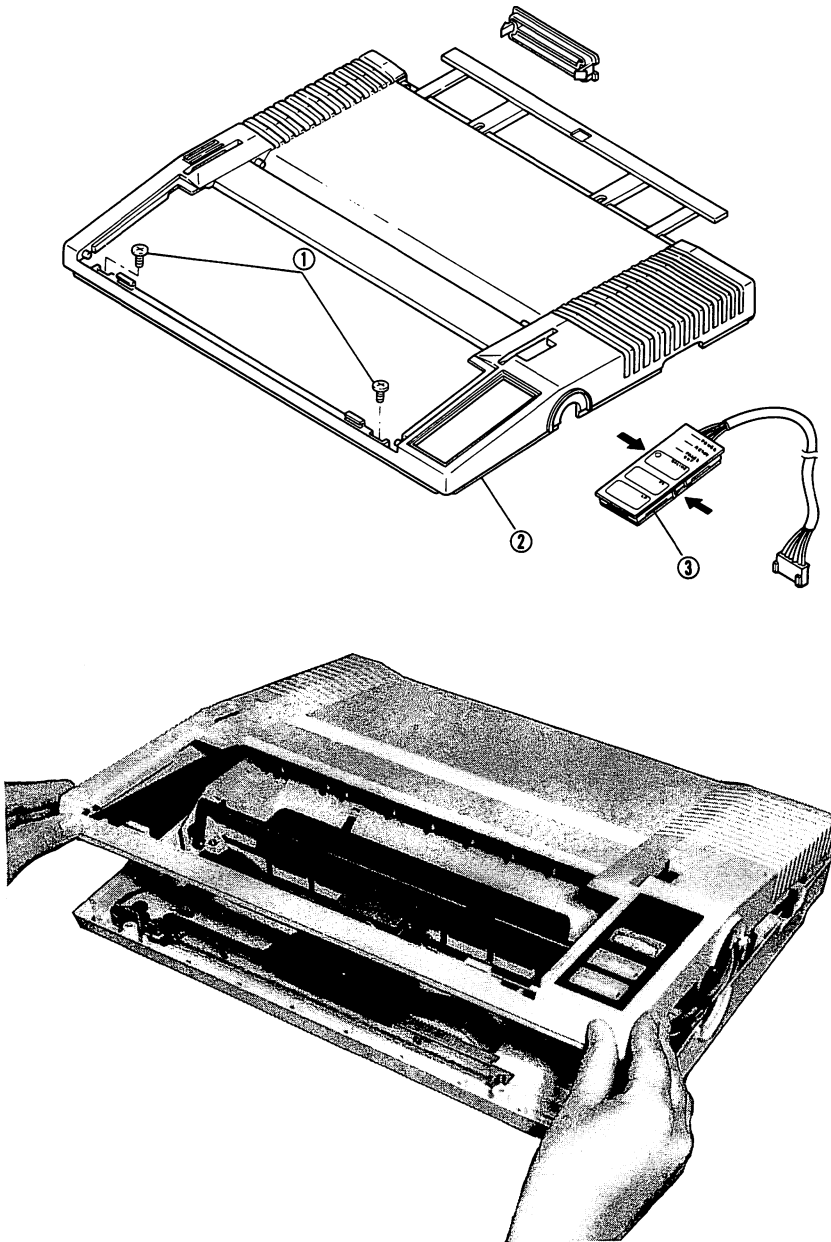

Fig. 4-1. Upper Case Removal
4.2.1 Upper Case Removal (Fig. 4-1)